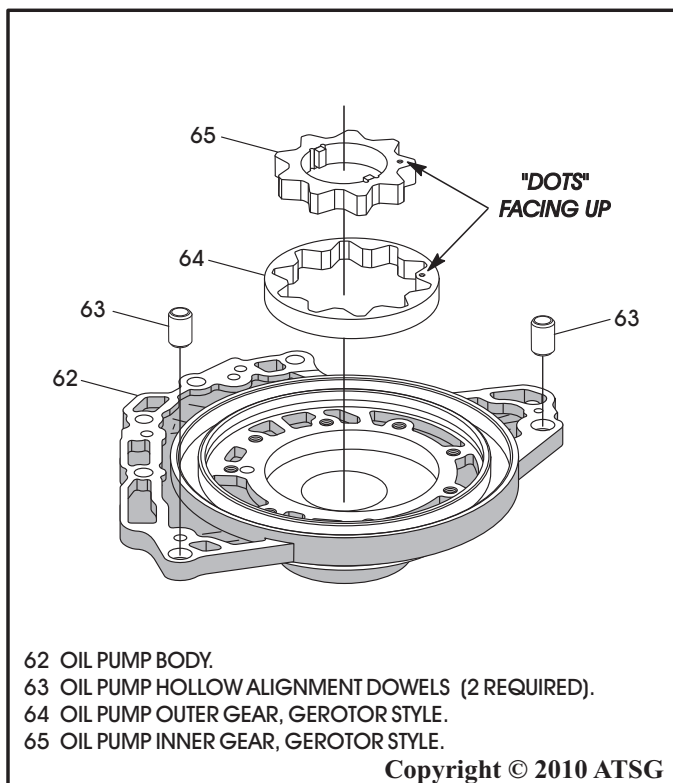

Figure 99
10. Install the oil pump body alignment dowels, as shown in Figure 99, if removed.
11. Install the oil pump inner and outer gears into the pump body, as shown in Figure 99, with the "dots" facing up.